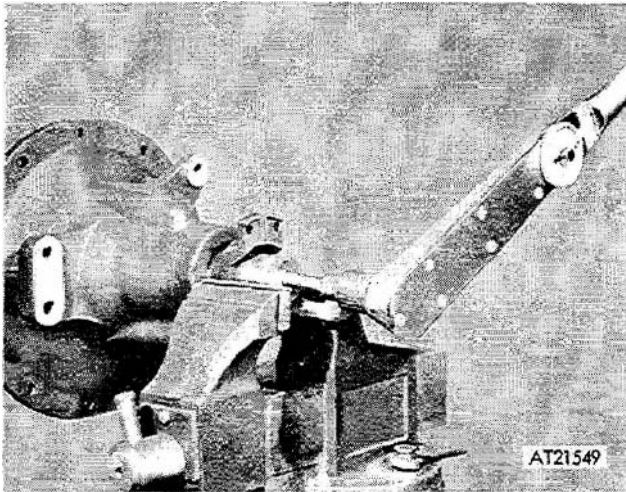

*Figure 3-175. Pressing outer bearing onto pinion.*
(6) Position pinion (13, fig 3-166) into housing (10). Position bearing (7) on pinion. Position a suitable adapter on bearing (7), that has a hole large enough for pinion (13) to pass through and press bearing on pinion (fig 3-175).